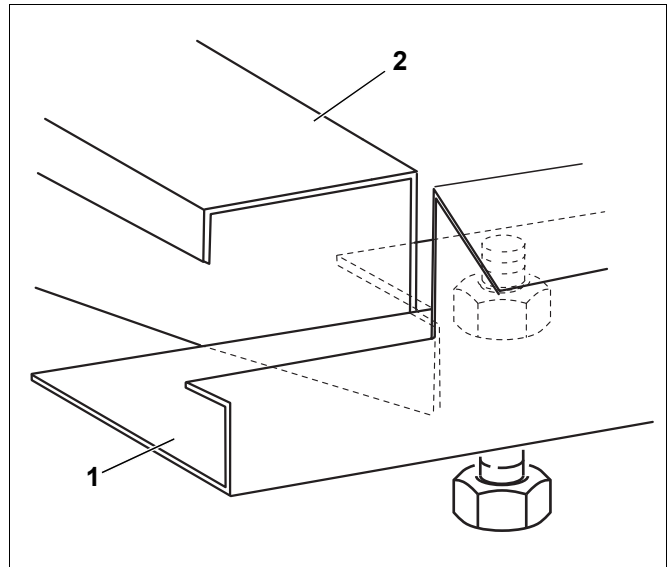

Fig. 39 Locating the longitudinal rail on the cross tie bar
- Locate the longitudinal rail (Fig. 39, [1]) with the front notch on the notch in the cross tie-bar (Fig. 39, [2]).